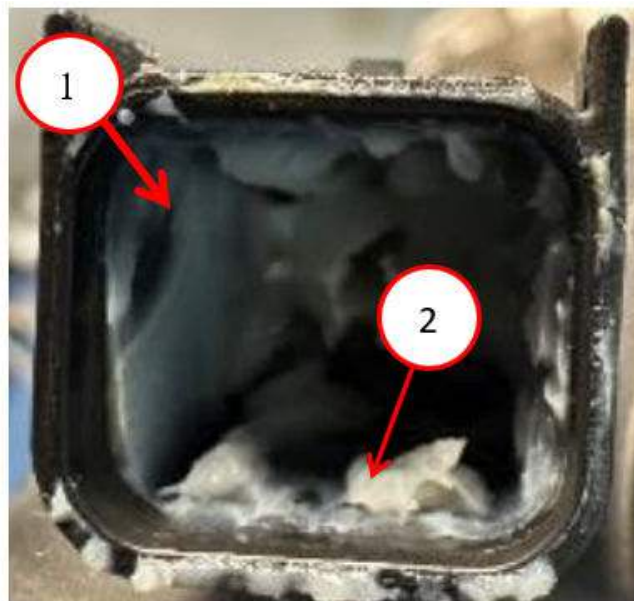

Fig. 4
13. Inspect the connector mating header for any excessive grease build up Fig. 4.